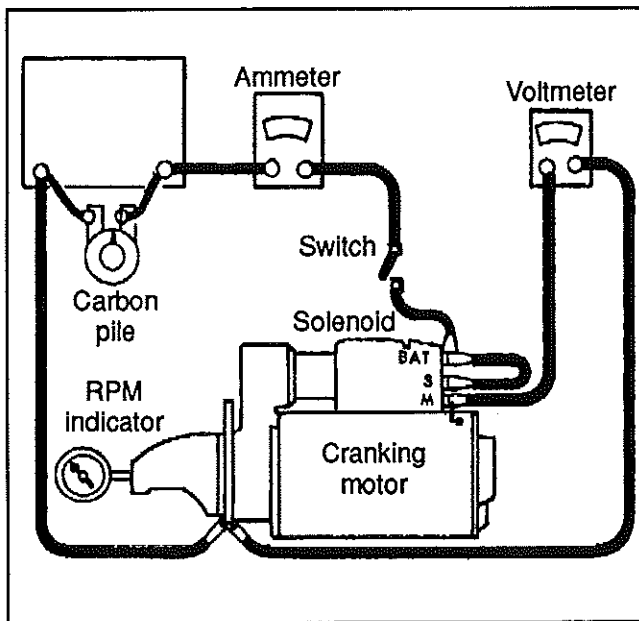

Fig. 39 - No-load test circuit
Connect the starting motor in series with fully charged batteries to give 24 volts, an ammeter capable of reading several hundred amperes, and a variable resistance. Connect also a voltmeter as illustrated in figure 39 from the solenoid motor (M) terminal to the starter frame. A rpm indicator is necessary to measure armature speed. Proper voltage can be obtained by varying the resistance unit.